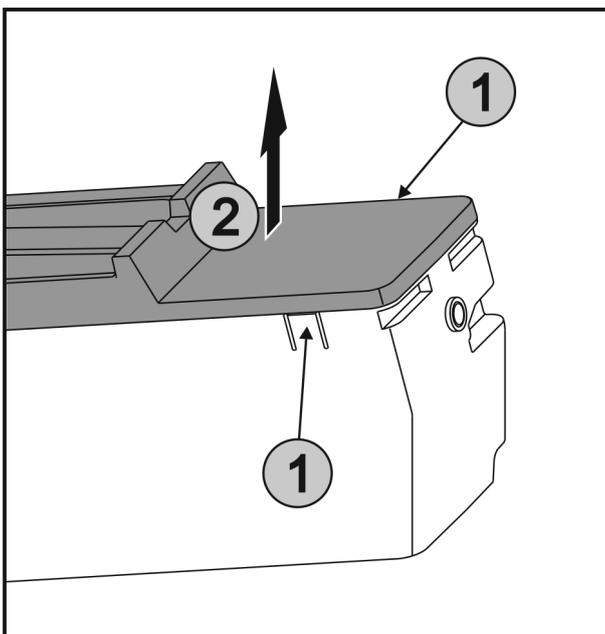

Fig. 41
- ▶ Press the lugs Fig. 41 (1) on both sides of the EasyTwist-Ice simultaneously and take off the lid Fig. 41 (2) to the top.